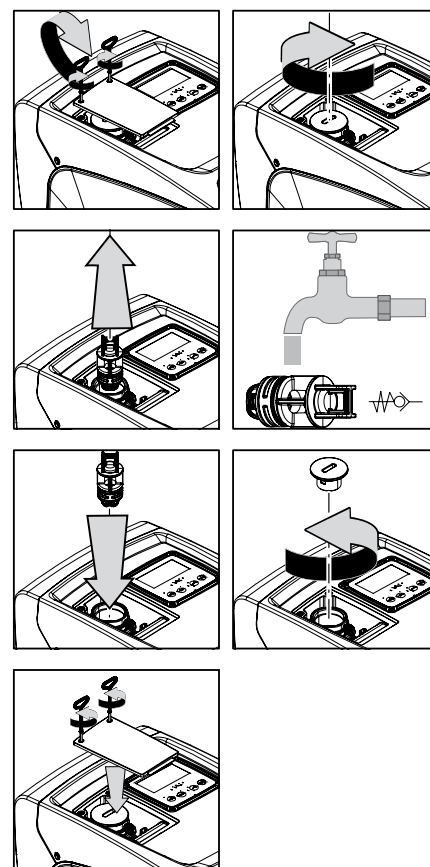

Figure 22
1. remove the access door to the special maintenance compartment (*Fig.1 Face F*) disengaging the 2 fixing screws with the accessory tool. It is advisable not to remove the screws completely, so that you can use them to extract the door. Take care not to drop the screws inside the system once you have removed the door (*Fig.22*);
2. using a screwdriver, remove the 1"1/4 cap so as to access the non-return valve (*Fig.22*);
3. using pliers, extract the cartridge of the non-return valve without rotating it, gripping it by the jumper provided for the purpose (*Fig.22*): the operation may require a certain effort;
5. put the complete cartridge back in its seat: the operation requires the force necessary to compress the 2 O-Rings (*Fig.22*);
6. Screw on the 1"1/4 cap until it is snug: if the cartridge has not been pushed correctly in place, screwing on the cap will complete its positioning (*Fig.22*);
7. reposition the door and tighten the 2 screws (*Fig.22*).